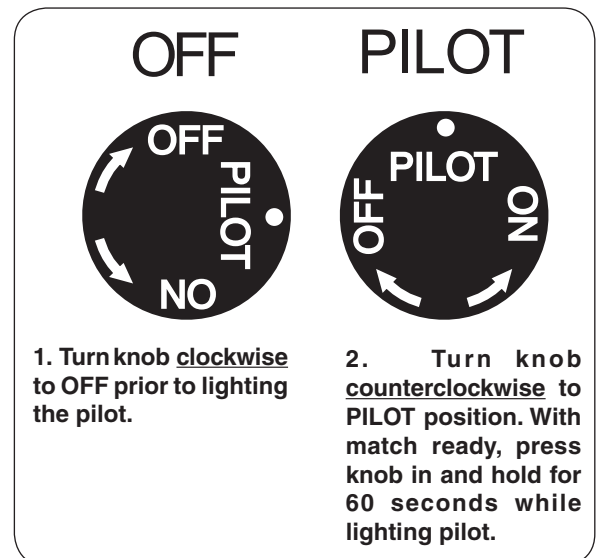

Fig. 37-1 Control knob detail (OFF, PILOT)
1. Locate the valve on the side of the unit. Push in the gas control knob slightly and turn clockwise to **OFF** (Fig. 37-1).
2. Turn the control knob counterclockwise to **PILOT** (Fig. 37-1). Push the control knob **firmly and fully** in and hold. Hold a long fireplace match or lighter near the thermocouple to light the pilot. Continue to hold the control knob in for approximately 60 seconds after the pilot is lit, then release the knob. The pilot will remain lit.